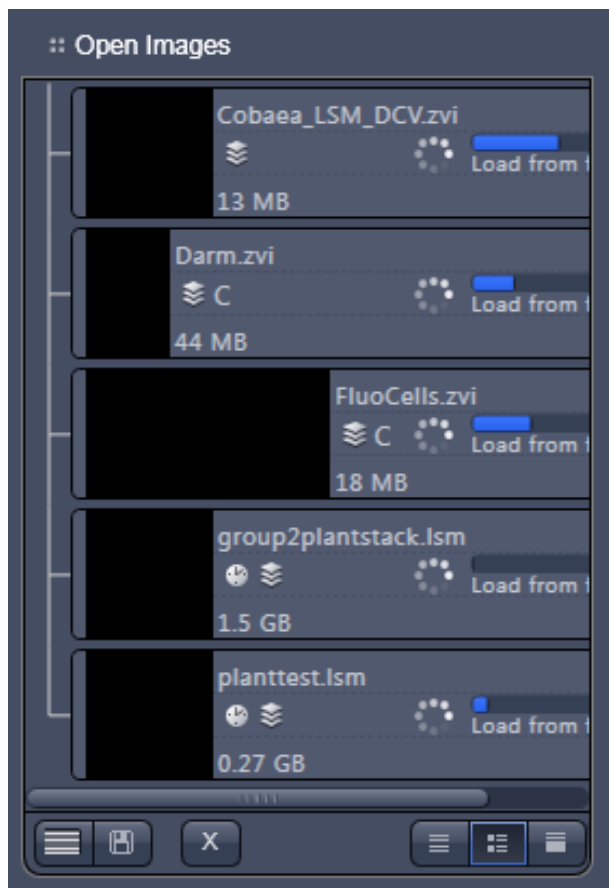

Fig. 336 Image progress bar
- A progress bar (Fig. 336) is shown for each image facilitating the overview if e.g. many processing function are running at the same time.